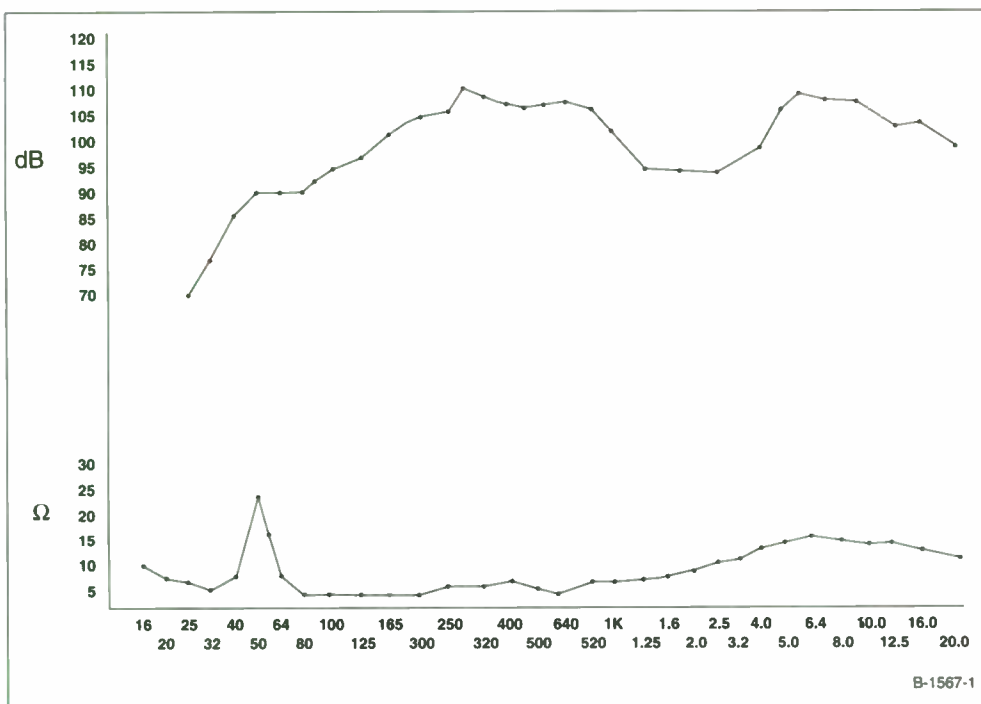

FIGURE 1: The Doppelganger's response graph (dB SPL/1m/2.83V input, $f_b = 30\text{Hz}/3.8\Omega$, F_r [box resonance] = $48\text{Hz}/24\Omega$).
VALUES FOR FIG. 1**
The response graph (Fig. 1) reflects the mixed-driver version; when using a
I measured Fig. 1 outdoors on a deck with a 2.83V input, to give a direct comparison with other cabinets with regard to voltage rather than wattage input. The graph is plotted using 1/3-octave points (for which I thank Louis McClure for his 4/99 *SB* article, "Plotting 1/3-Octave Frequency-Response Curves"). If there is an inherent defect in using very small horns to gain high SPLs, it is in the roughness of response, which makes an equalizer, preferably 1/3-octave, an absolute necessity. In using a 1/3-octave response-graph system, the setup is greatly simplified, setting the equalization (EQ) sliders inversely to the chart, in this case, using 106dB as the zero dB baseline.